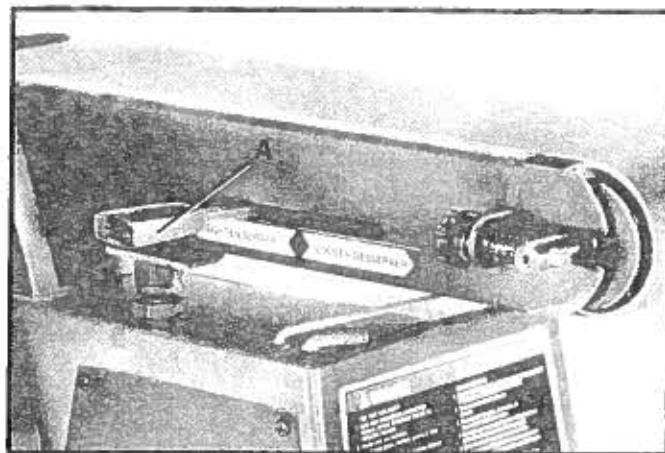

Fig. 28
2. When making this adjustment make sure the belt tension lever (A) Fig. 28, is all the way to the left in the tightened position, as shown.